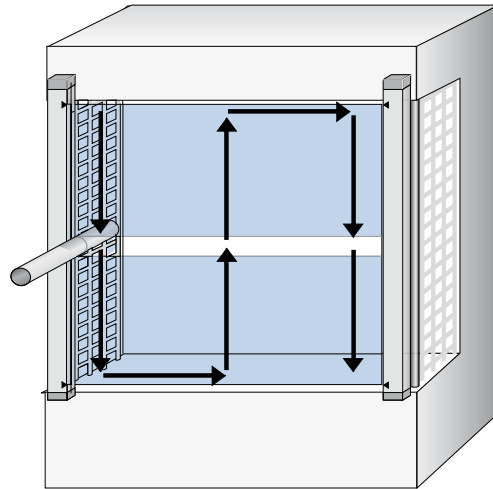

Figure 15: Test rod check: Step 1
1. Move the test rod slowly through the protective field to be protected (e.g., machine opening as indicated by the arrow, see figure 15, page 29).